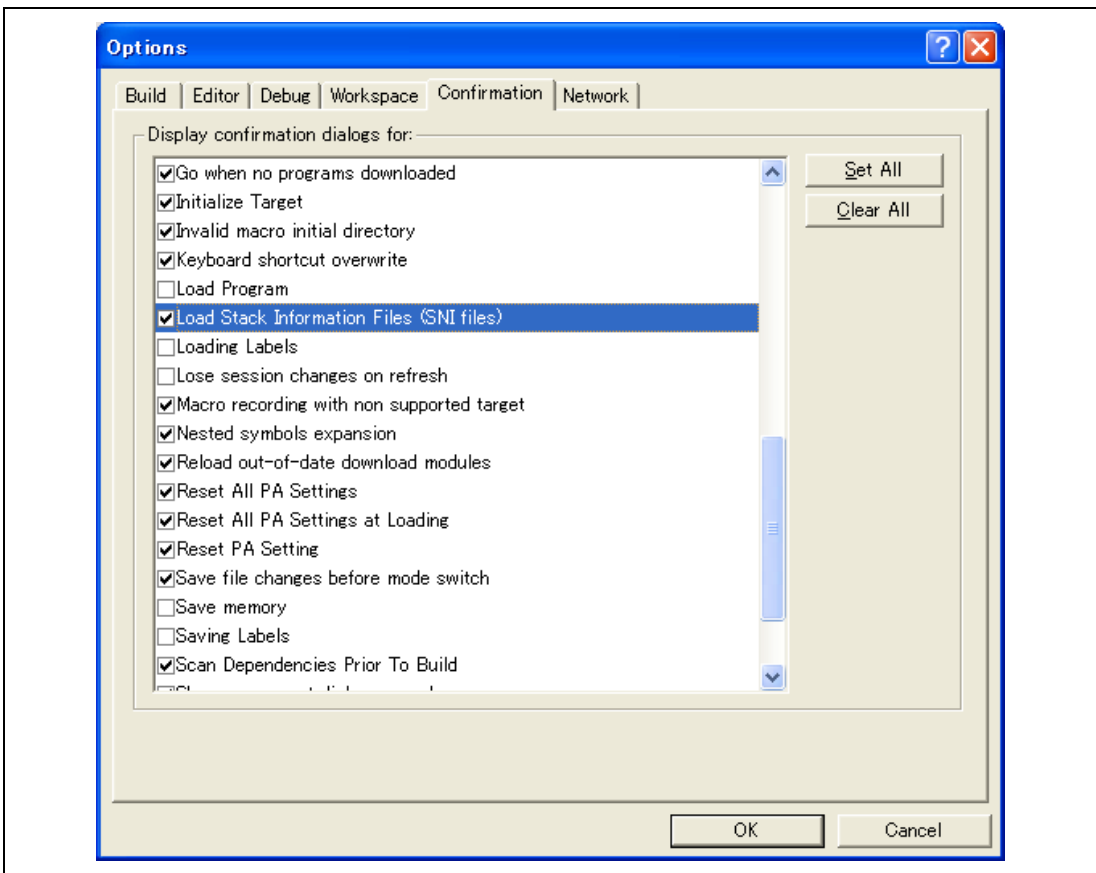

Figure 5.42 [Options] Dialog Box
- The [Load Stack Information Files (SNI files)] check box is checked in the [Confirmation] sheet of the [Options] dialog box (figure 5.42) that can be opened by choosing [Setup ->Options...] from the main menu.